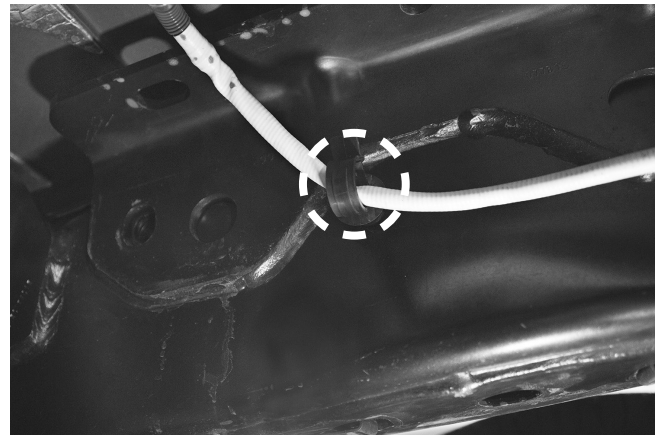

Fig. 31
- To install the passenger's (right) side upper brace (F), locate the clip (circled Fig. 31) that holds the wiring harness for the O2 sensor. Remove and discard the clip, as it will no longer be needed.